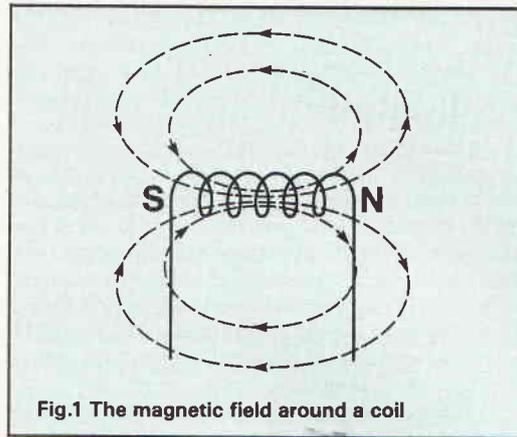

Fig.1 The magnetic field around a coil
**A**t this point in the series you should have a good knowledge of basic electrical circuits. Back in part 2 we examined the link between magnetism and electricity, and saw that a magnetic field is generated around a current-carrying conductor. The existence of this field can be proven by placing a small compass next to the conductor. The electromagnet is a device which puts this field to good use. If a wire is wound into a coil, the magnetic field surrounding each turn of the conductor combines with those next to it. This results in a much stronger magnetic field surrounding the coil (Figure. 1).